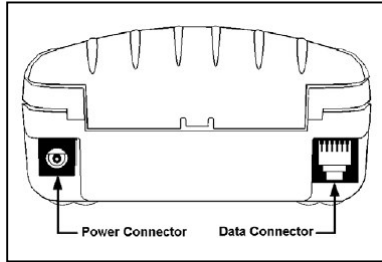

Figure 32
- Connect the power pack charger to the »Power Supply« connection of the printer (Figure 32).